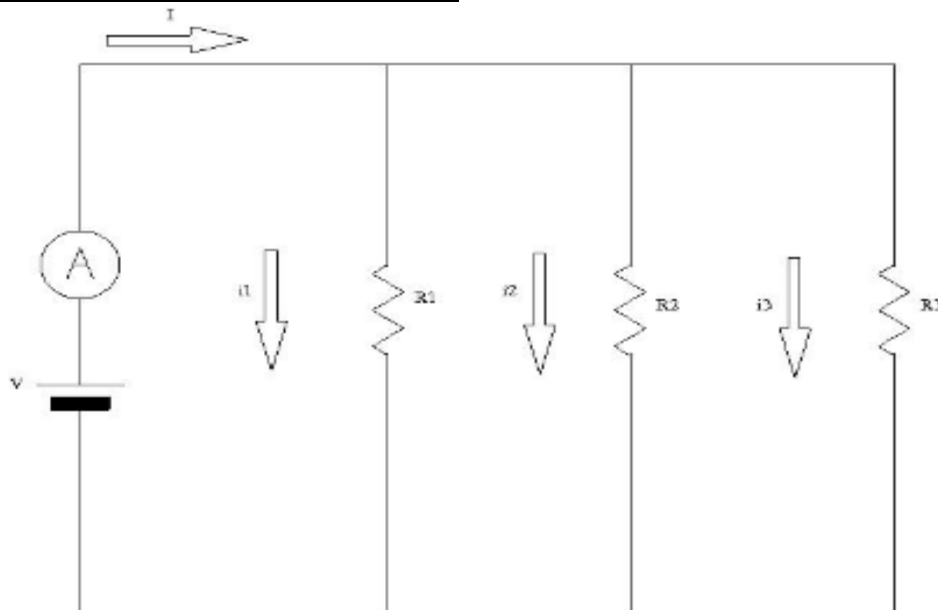

Figure 2: Node circuit
1. Using the proto-board, the 4 resistors, the variable power supply, and the wire leads and alligator clips; construct the circuit shown in Figure 2.